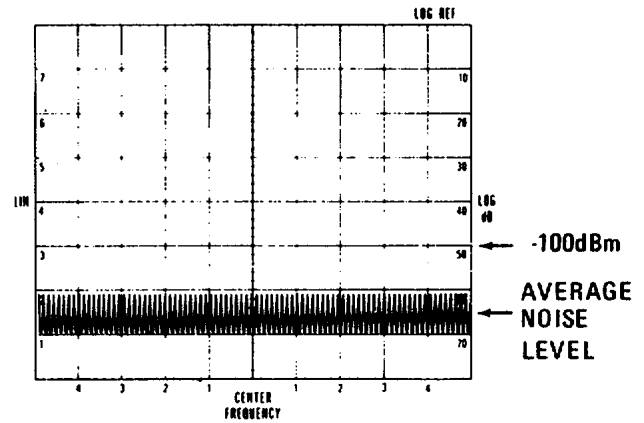

Figure 7-3. Residual Response Test: 10 to 110 MHz CRT-Display.
3. Observe the display as the analyzer scans from 10 to 110 MHz. The average noise level should be less than -100 dBm, and no, residual responses should occur. Figure 7-3 represents a scan with no residual responses, and with the average noise level indicated.